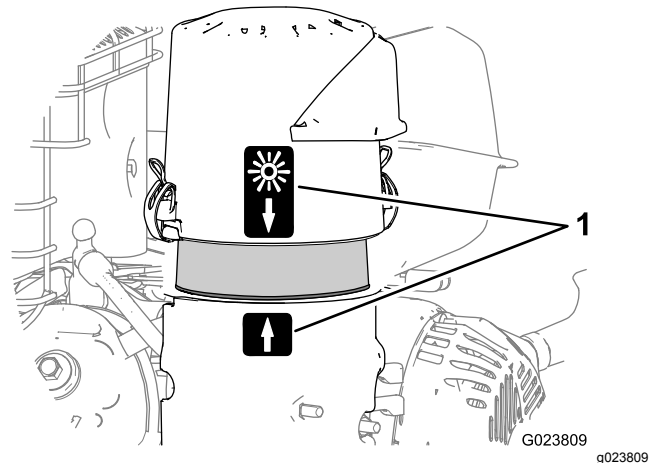

Figure 72
5. Align the arrow decal on the air-cleaner cover and the arrow decal on the base (Figure 72).